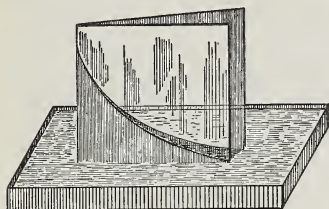

Fig. 75
2. If a set of tubes is not available, the experiment may be performed just as well in another way. See Fig. 75.